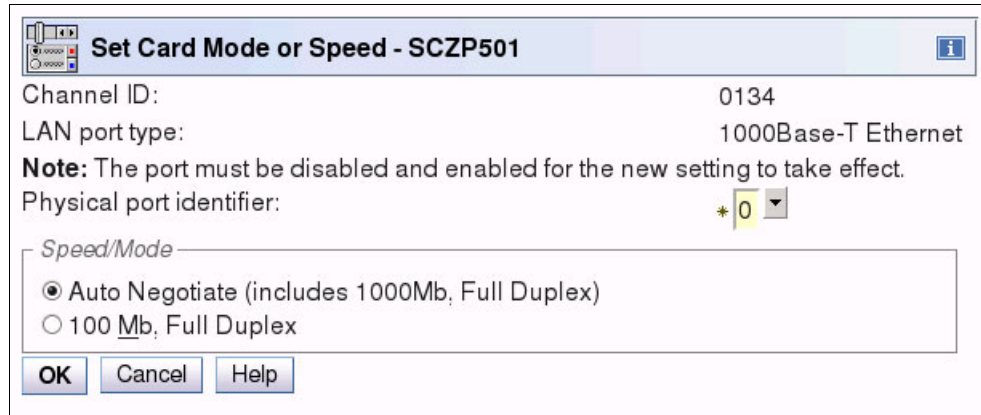

Figure 14-100 OSA Advanced Facilities: set card mode or speed
- The Set Card Mode or Speed panel opens (Figure 14-100). Select the correct port speed from the Speed/Mode list. You can set the speed of port 0 and 1 individually. Click **OK**.